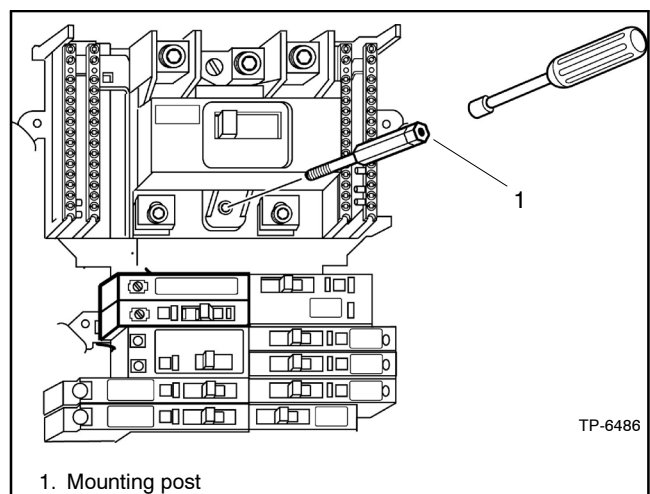

Figure 2-5 Installing Mounting Post and Generator CB
6. Install the transfer mechanism mounting post using a 5/16 in. nut driver. Torque the post to 3.4 Nm (30 in. lb.). Be careful not to damage the mounting post sleeve during installation. See Figure 2-5.
2. Install the transfer mechanism mounting post using a 5/16 in. nut driver. Torque the post to 3.4 Nm (30 in. lb.). Be careful not to damage the mounting post sleeve during installation. See Figure 2-5.